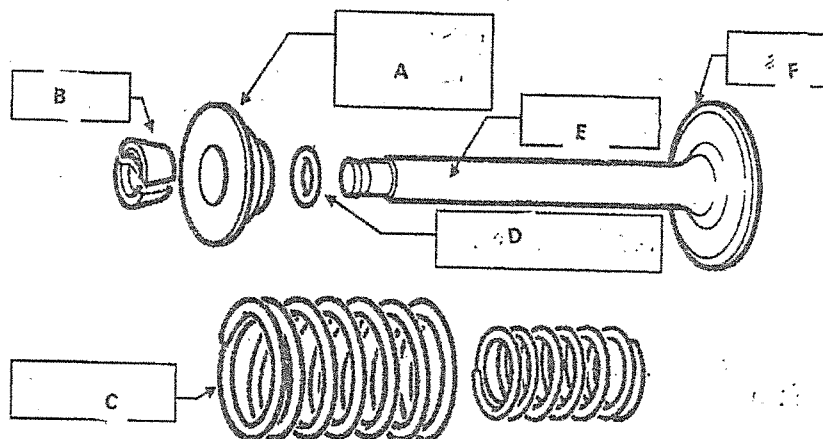

FIGURE 2
- 2.2 FIGURE 2 on DIAGRAM SHEET 1 (attached) shows the parts of valve assembly of an engine.